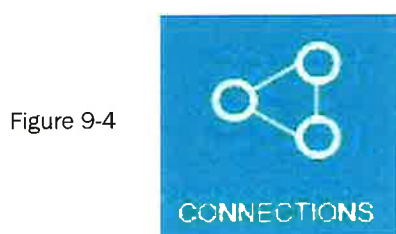

Figure 9-4
1. Click on 'Connections', Your video wall will be shown. Choose Connect. Figure 9-4.
Figure 9-4 (continued) shows the 'Connection settings' window with a list of connections. The first connection is highlighted in blue and shows '127.0.0.1' and '60090'. Below the list are buttons for 'CONNECT', 'REMOVE', and 'CLOSE'.